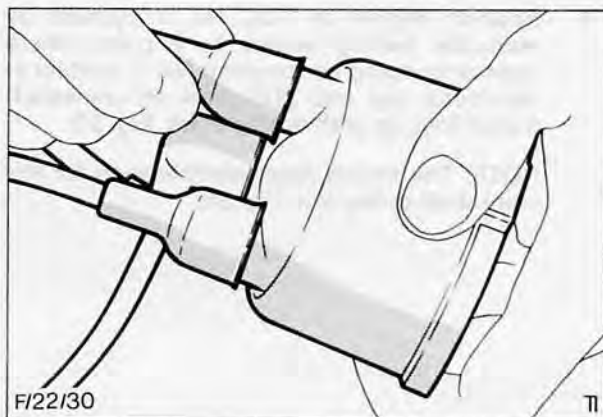

Fig. 36. Removing HT lead
1. Release spring clips and remove cap and rotor arm. If necessary remove HT leads from cap by gripping end of terminal, not lead, Fig. 36.